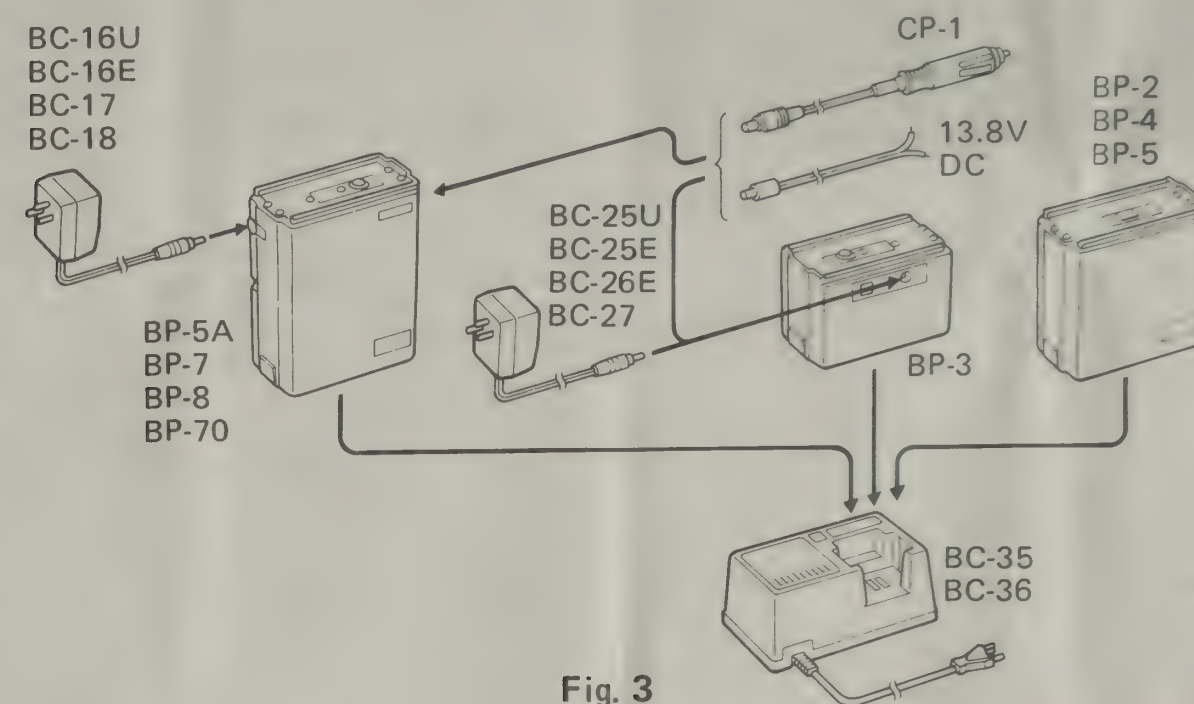

Fig. 3
2. Connect the appropriate charger to the battery pack, or insert the battery pack in a drop-in type charger as shown in Fig. 3.